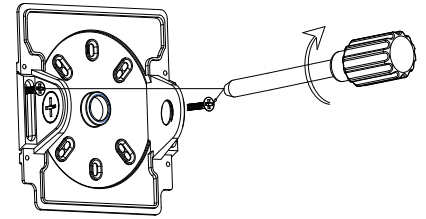

Fig. 3B
4. Install the back plate on the wall by screwing it (screws not included) (Fig. 3B).
3. Installer la plaque arrière sur le mur en la vissant (vis non fournies) (Fig. 3B).